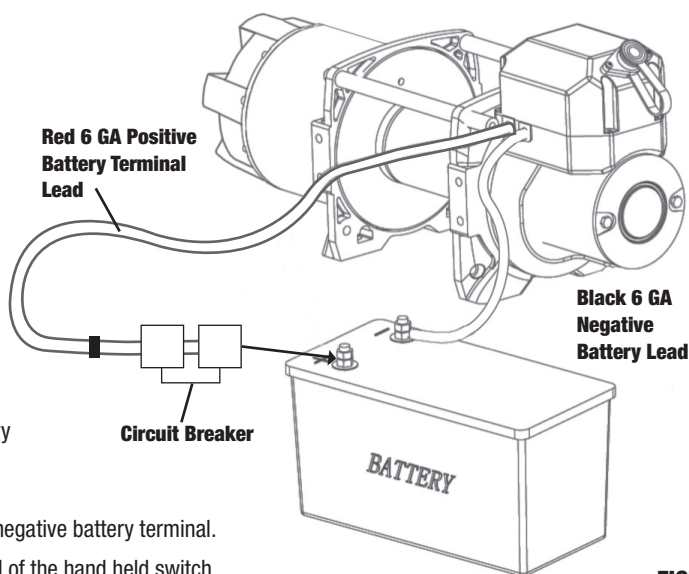

FIGURE 11
Step 1 Follow electrical connection diagram (**FIGURE 11**). Bolt the circuit breaker to the terminal end of the Red 6 GA battery lead that is factory connected to the sealed solenoid switching pack. Now connect the circuit breaker to the positive battery terminal.